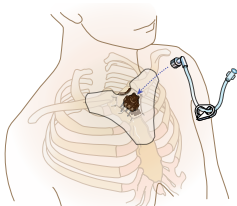

FIGURE 13
- Engage Luer Lock collar in order to prevent accidental disconnection. (See Figure 13)